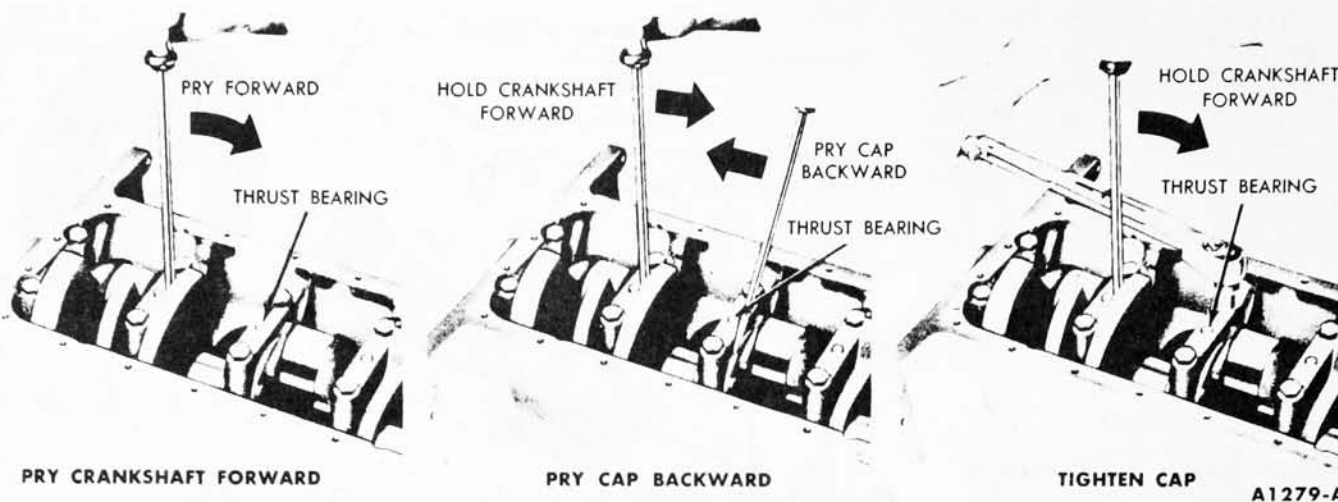

FIG. 38—Thrust Bearing Alignment
8. Pry the crankshaft forward against the thrust surface of the upper half of the bearing (Fig. 38).
9. Hold the crankshaft forward and pry the thrust bearing cap to the rear (Fig. 38). This will align the thrust surfaces of both halves of the bearing.
10. Retain the forward pressure on the crankshaft, and tighten the cap bolts to specifications (Fig. 38).